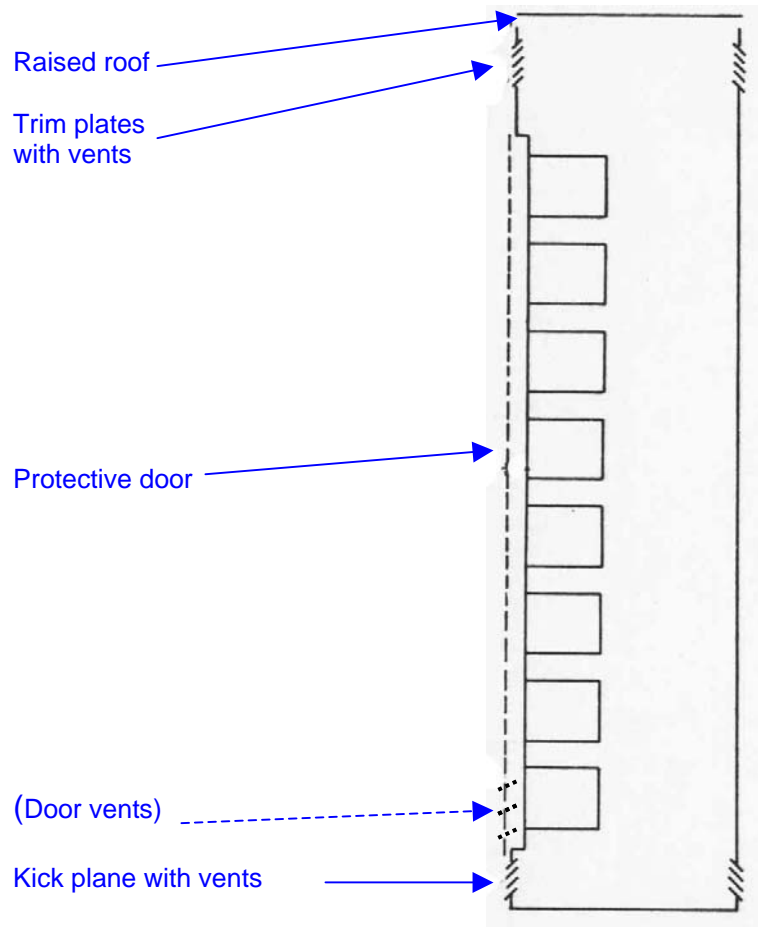

Fig. 3 Self ventilated design of the cubicle
- 5) Self-ventilated design according to figure 3.
Table 2 is applicable for convection in sealed or self-ventilated cubicles with design according to figure 3. When the power losses are approximately evenly distributed in the equipment frames, the temperature increase will not exceed 15°C.